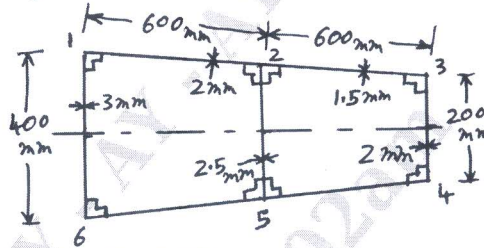

Fig.Q4(b)
b. Fig.Q4(b) shows Two-cell box type wing section with vertical spars connected to the wing skin through angle sections having cross sectional area of  $300 \text{ mm}^2$ . Idealize the section into direct stress carrying booms and shear stress only carrying panels suitable for resisting bending moments in virtual plane.